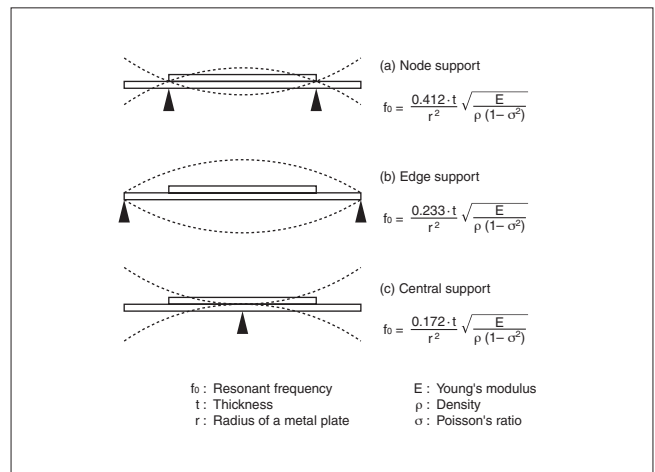
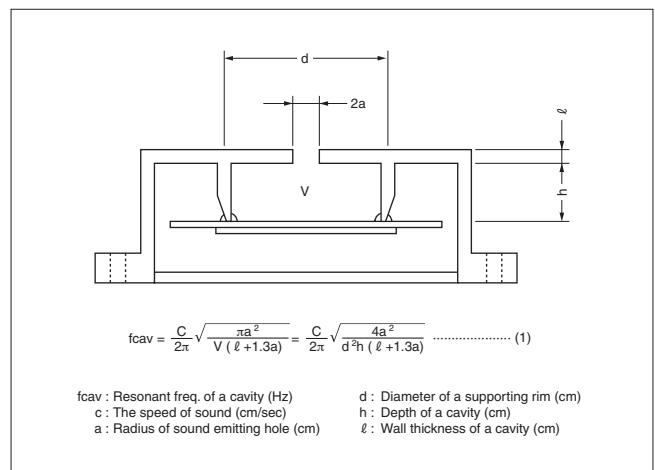

Fig. 3 Supporting Method
Fig. 4 Sectional View of a Cavity
In general, man's audible frequency range is about 20 Hz to 20kHz. Frequency ranges of 2kHz to 4kHz are most easily heard. For this reason, most piezoelectric sound components are used in this frequency range, and the resonant frequency (f_0) is generally selected in the same range too. As shown in Fig. 3, the resonant frequency depends on methods used to support the piezoelectric diaphragm. If piezoelectric diaphragms are of the same shape, their values will become smaller in the order of (a), (b) and (c). In general, the piezoelectric diaphragm is installed in a cavity to produce high sound pressure (Fig. 4). The resonant frequency (f_{cav}) of the cavity in Fig. 4 is obtained from Formula (1) (Helmholtz's Formula). Since the piezoelectric diaphragm and cavity have proper resonant frequencies, (f_0) and (f_{cav}) respectively, sound pressure in specific frequencies can be increased and a specific bandwidth can be provided by controlling both positions.
Fig. 9 shows a typical application of the self drive method. The piezoelectric diaphragm provided with feedback electrode shown in Fig. 9 (i) is involved in the closed loop of a Hartley types oscillation circuit. When the frequency is closed to the resonant frequency, the circuit satisfies oscillating conditions, and the piezoelectric diaphragm is driven with the oscillating frequency. Fig. 9 (ii) shows a simple oscillating circuit consisting of one transistor and three resistors. In general, the node support shown in Fig. 3 (a) is popular in the self drive method. Proper resonance of the piezoelectric diaphragm by the node support provides stable oscillation with high mechanical Qm of vibration but also a single high pressure tone.
In addition to the previous methods based on the electrical circuit, it is also possible for Piezoelectric sound components to raise up S.P.L. by using a resonant cavity based on Helmholtz's Formula in Fig. 4 of Page 3. Concerning these items, please refer to contents of this URL: